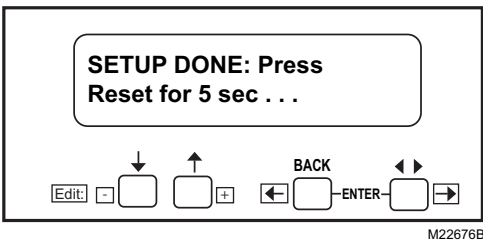

Fig. 22. Setup Done screen.
22. Press the down arrow to confirm the correct post-purge time. "Getting Data" will be displayed until the screen in Fig. 22 appears.